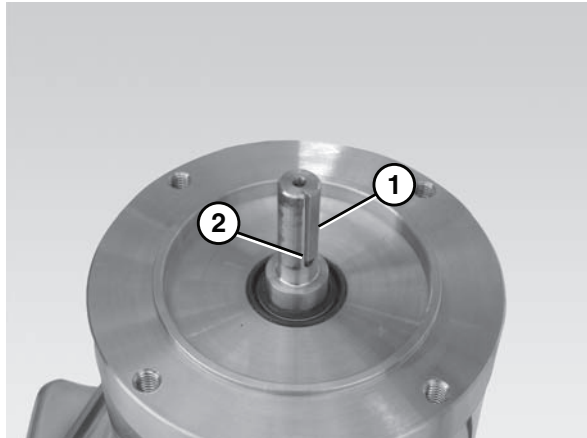

Figure 26
- Insert the gearmotor output shaft key (**Figure 26, item 1**) into the gearmotor output shaft keyway (**Figure 26, item 2**).
<p>Ensure the gearmotor output shaft key (Figure 26, item 1) is situated properly before attaching the motor to the gear reducer.</p>